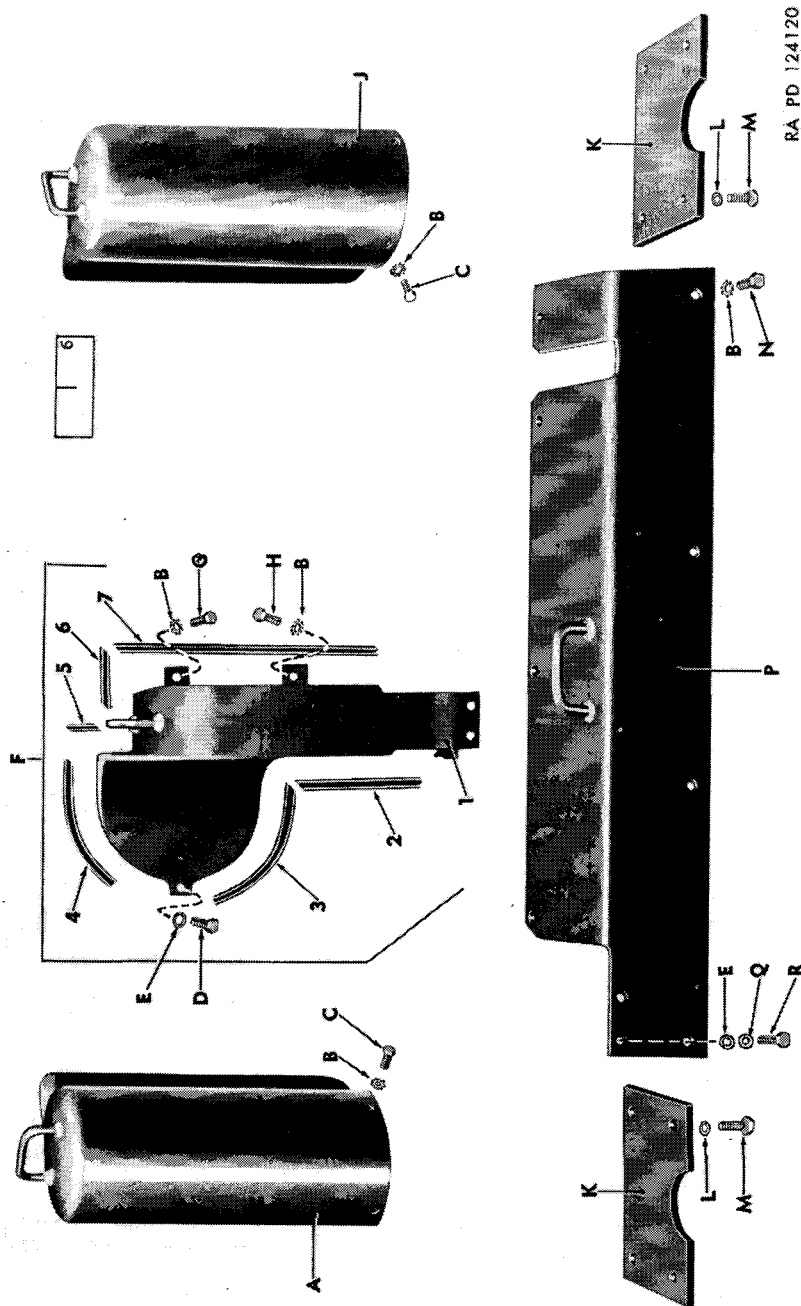

Figure 51. Hydraulic-cylinder and piping guards and guard plates.
- (1) Attach a sling to the handle formed at the top of the guard (fig. 51), and lower the guard into position on the front of the vehicle with the slot cut into the flat top of the guard near the right end approximately in front of the lower part of the left-inner-tilt-arm bracket.